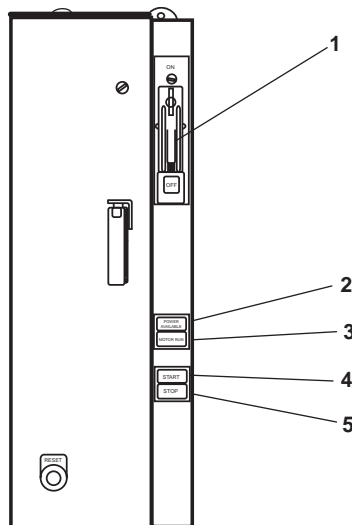

Figure 15. AFFF Pump Motor Controller
- (1) Set the ON-OFF switch (figure 15, item 1) to the ON Position.
- (2) Verify the POWER AVAILABLE indicator (figure 15, item 2) is energized.
- (3) Press the START pushbutton (figure 15, item 3).
- (4) Verify that the MOTOR RUN indicator (figure 15, item 4) is energized.
- (5) Verify that the AFFF system pressure on the duplex gauge is approximately 5 PSI (0.3 bar) higher than fire main pressure.
- (1) Press the STOP pushbutton (figure 15, item 5).
- (2) Observe that the MOTOR RUN indicator (figure 15, item 4) goes out.
- (3) Set the ON-OFF switch (figure 15, item 1) to the OFF position.
- (4) Observe that the POWER AVAILABLE indicator (figure 15, item 2) goes out.